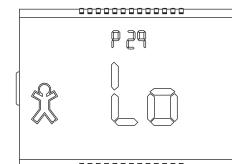

Fig. 14: T&B Mode Lo
- d. ACTIVE TEST & BALANCE MODE - Screen P29 (figures 14 & 15)
- d. ACTIVE TEST & BALANCE MODE - Setpoint buttons up or down toggles between ‘LO’ and ‘HI’ on the LCD. This mode is active only for models which use Channel 1 as a temperature output. ‘LO’ will drive Channel 1 to it’s lowest voltage or current output. ‘HI’ will drive Channel 1 to it’s highest voltage or current output. (figures 14 & 15)